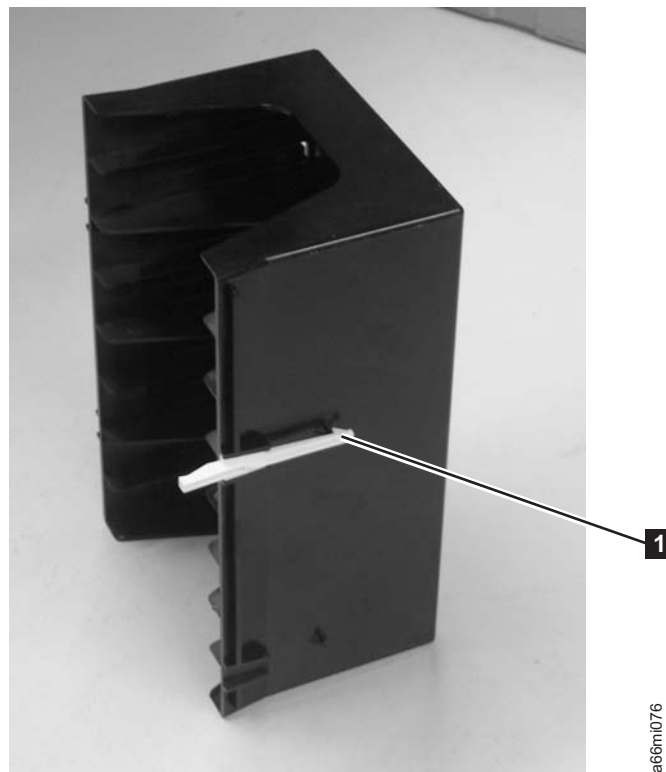

Figure 8-99. Fiducial on storage column
- b. Insert the new fiducial by sliding it into the slot until it locks into place (**1** in Figure 8-99).